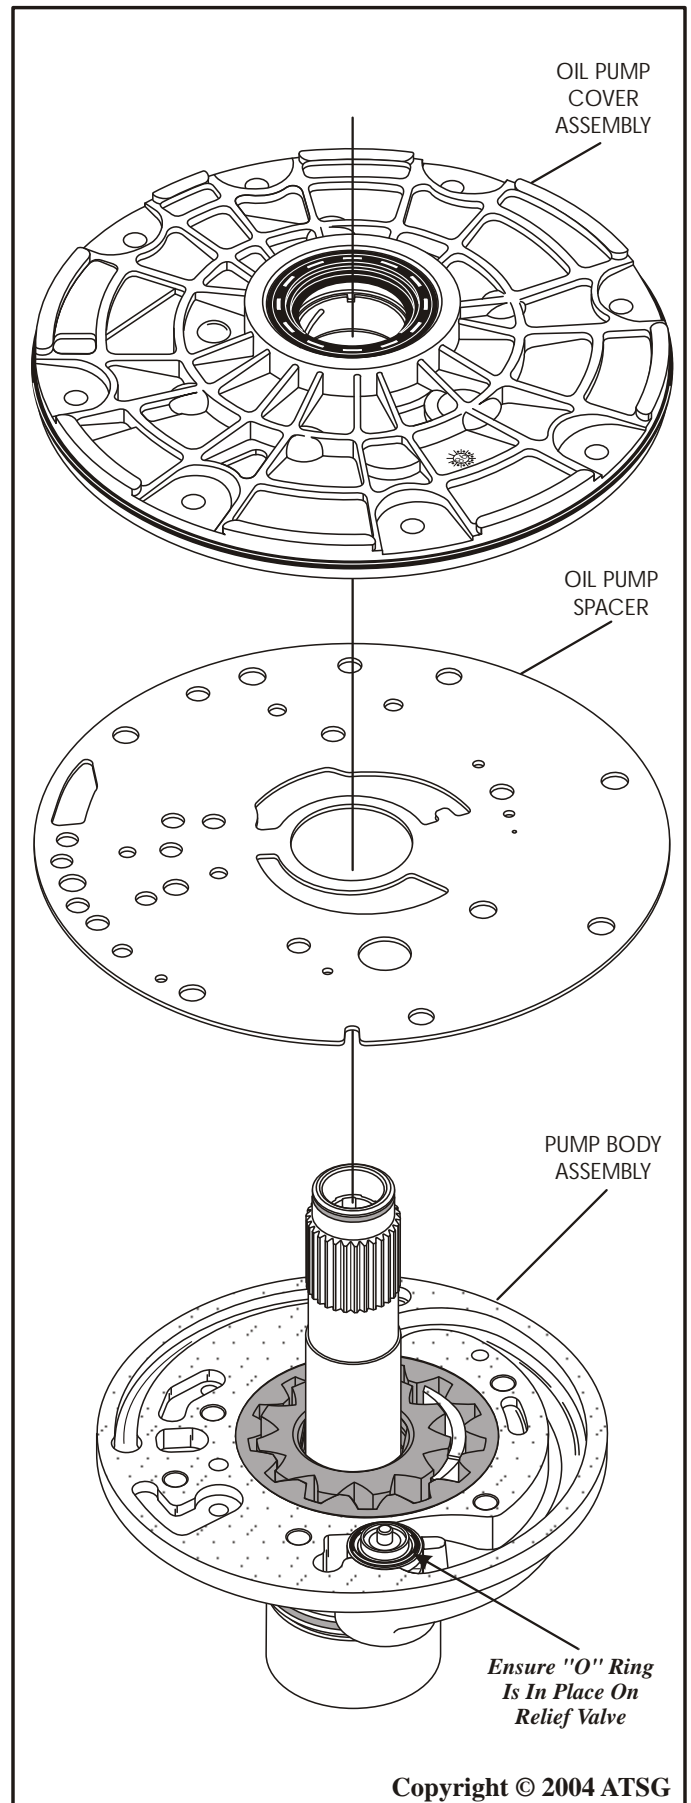

Figure 62
14. Place pump body and stator shaft assembly on bench with shaft facing up (See Figure 62).
Note: Ensure that the "O" ring seal is still in place on the relief valve (See Figure 62).
15. Install oil pump spacer plate and pump cover onto pump body, as shown in Figure 62.